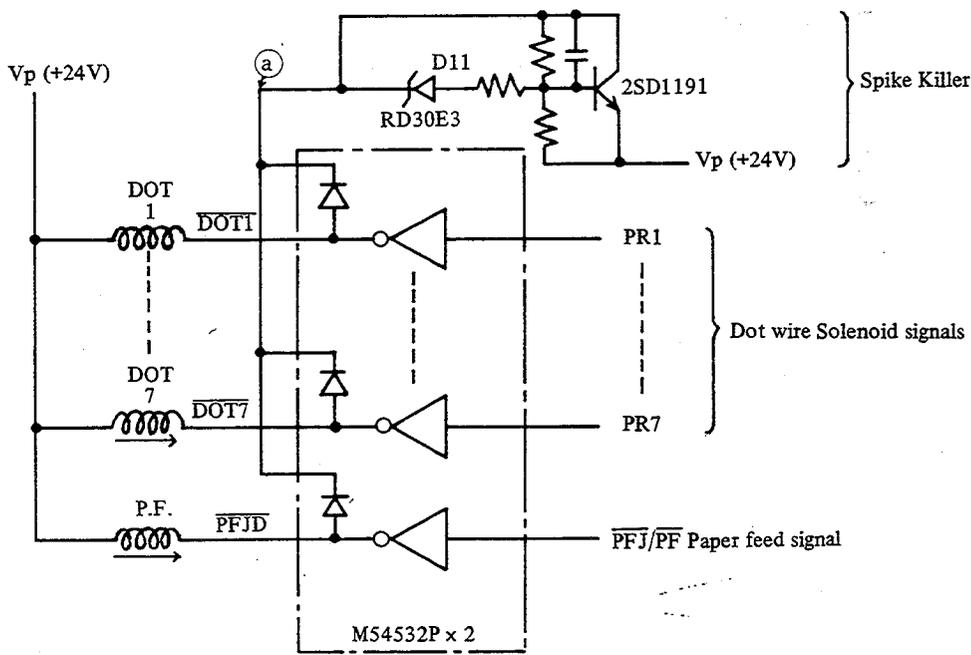

Fig. 17
A counterelectromotive force shown with an arrowhead in Fig. 17 is generated upon shutting off the power supply to the dot wire solenoids (dot-1 thru dot-7) and the paper feed solenoid (PF). The spike killer circuit is used to abate it by introducing it to the power source VP.